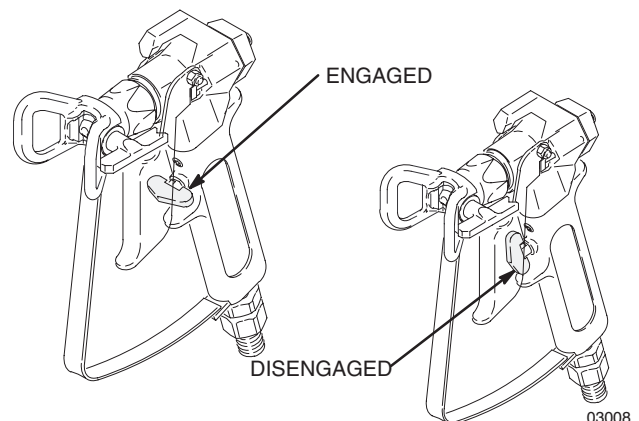

Fig. 1
1. To engage the gun trigger safety, turn the latch to a right angle with the gun body. See Fig. 1.
3. Follow the **Pressure Relief Procedure** on page 5. Be sure the gun trigger safety is locked. See Fig. 1.